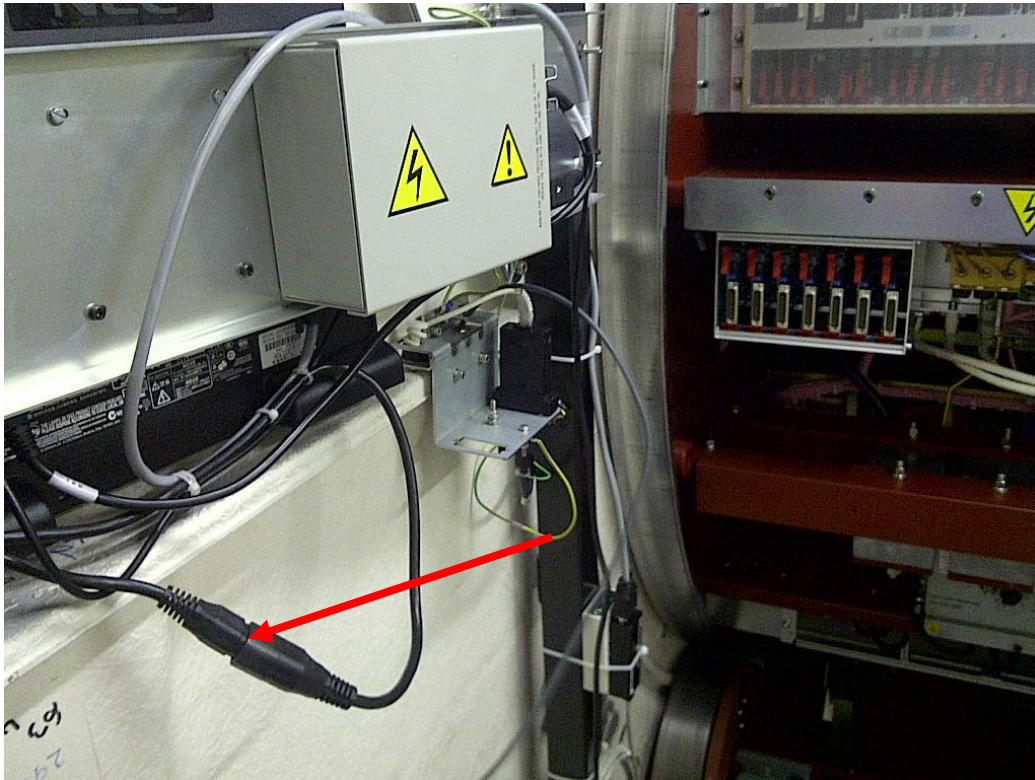

Figure 6: Split power cable
11. Connect the split power cable (1028409, part of the upgrade kit) to the mains power supply for the TRM (see Figure 6).